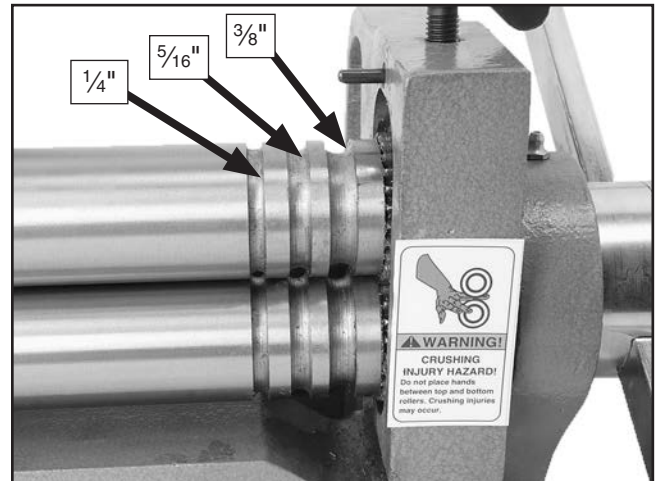

Figure 24. Wire grooves.
1. Place your workpiece into the smallest possible groove on the wheel. The three sizes are $\frac{1}{4}$ ", $\frac{5}{16}$ ", and $\frac{3}{8}$ " (**Figure 24**).